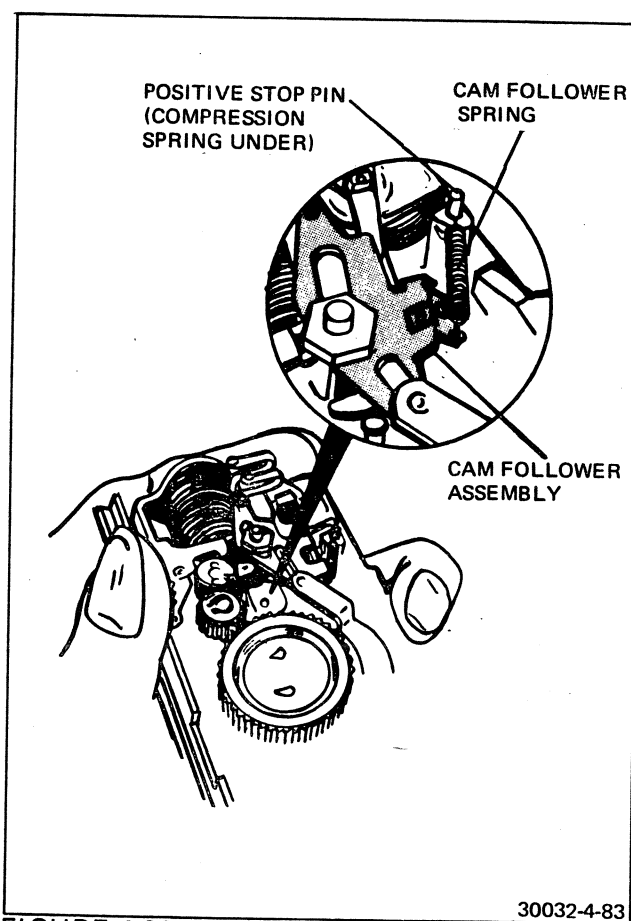

FIGURE 4-83 CAM FOLLOWER ASSEMBLY, POSITIVE STOP PIN & SPRING
- g. Remove the positive stop pin (Figure 4-83).